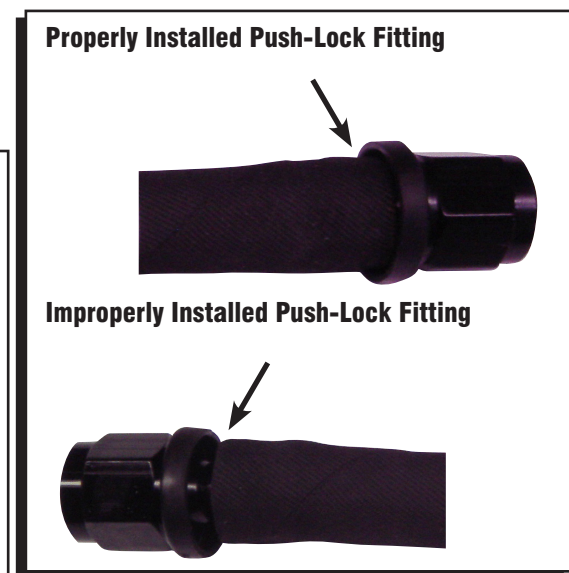

Figure 22 Installed Push-Lock Fitting.
4. With the fitting anchored securely, push the hose over the barbs. The hose is properly installed when it is flush with the thin edge of the beauty ring (Figure 22). At this point, the hose end should have rolled over the inboard barb.